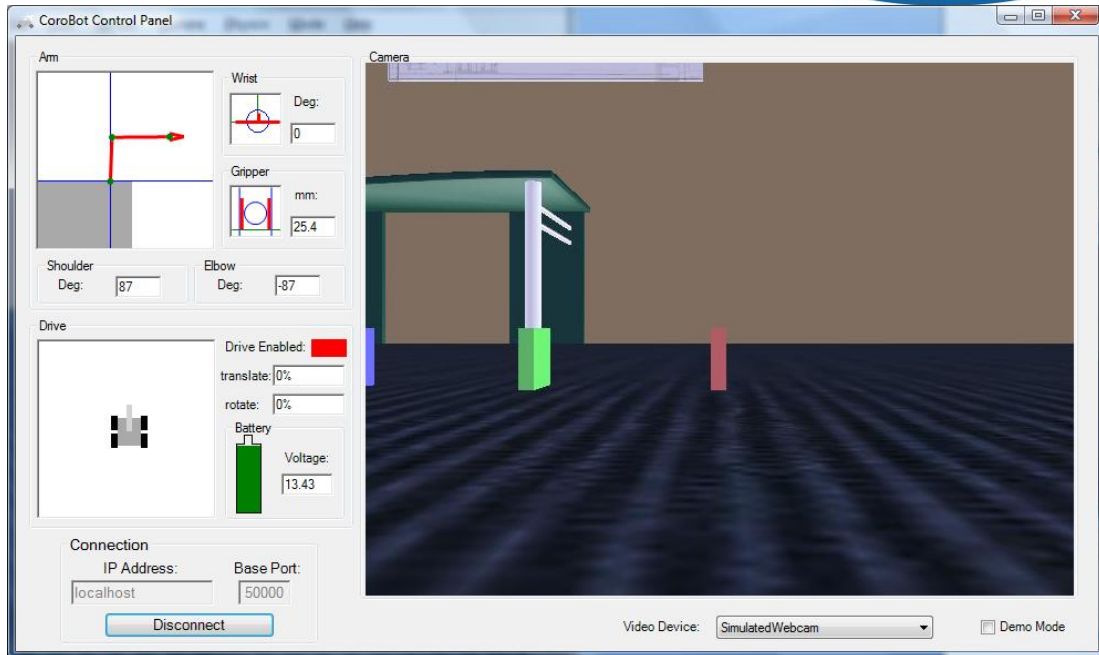

Figure 4: The CoroBot Control Panel allows the user to see the environment from the robot's perspective.
5. To operate the robot, switch to the Control Panel and connect to the CoroBot by entering 'localhost' as the IP Address and clicking **Connect**. Once connected to the robot, you should see an image appear in the right-hand Camera pane which reflects what the robot is seeing (see Figure 4)